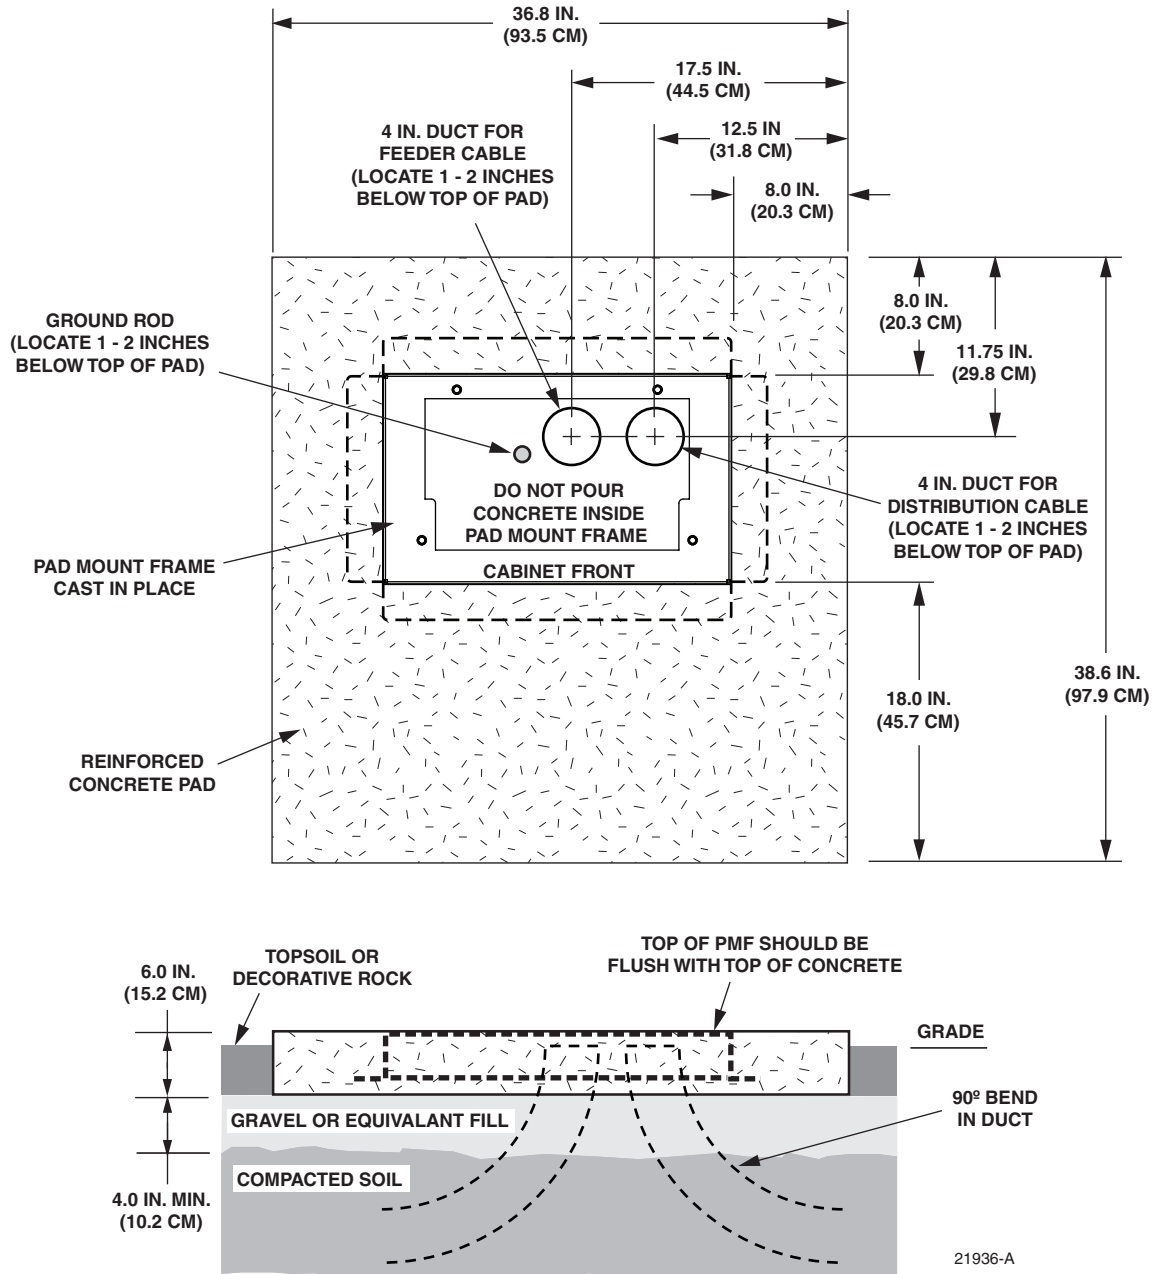

Figure 2. Constructing the Concrete Pad for the FDH 3000 Small Size Cabinet
Prepare a base for the concrete pad that meets all local code requirements. The base must have a footing of 4 to 6 inches (10.2 to 15.2 cm) of gravel or other suitable fill (per local practice) on firmly compacted soil. Refer to the diagram shown in Figure 2 for the base construction details.
2. Locate the PMF using the dimensions provided in the construction diagram (see Figure 2). When installed, the top surface of the PMF must be flush and level with the top of the concrete pad.
If the grounding system includes a ground rod, install the rod (see Figure 2) within the PMF opening at the indicated point. When installed, the top of the rod should be located 1 to 2 inches (2.54 to 5.08 cm) **below** the top of the finished concrete pad.